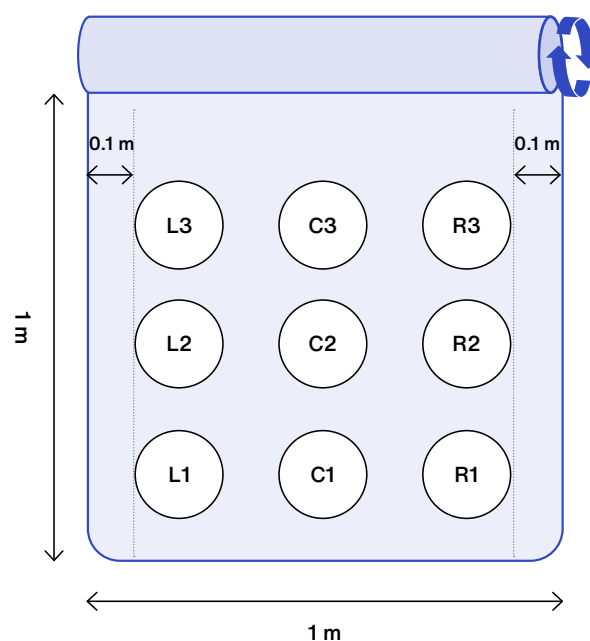

Figure 2. Recommended locations of coupon extraction from a 1-meter wide roll (L: Left, R: Right, C: Center).
- 9 coupons total is recommended for the entire cross-web performance measurement (3 coupons in left lane, 3 coupons in center lane, 3 coupons in right lane) (refer to Figure 2).